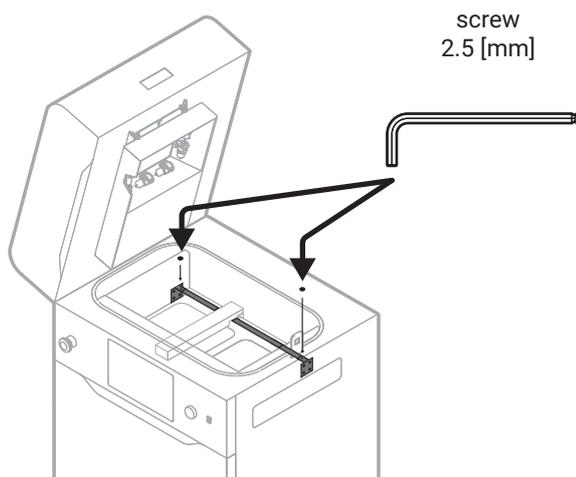

Fig. 17 Screwing on Recoater strip.
9. Using a 2.5 mm allen key and two Mx6 screws, pre-screw the Recoater strip onto the angles (fig. 17).